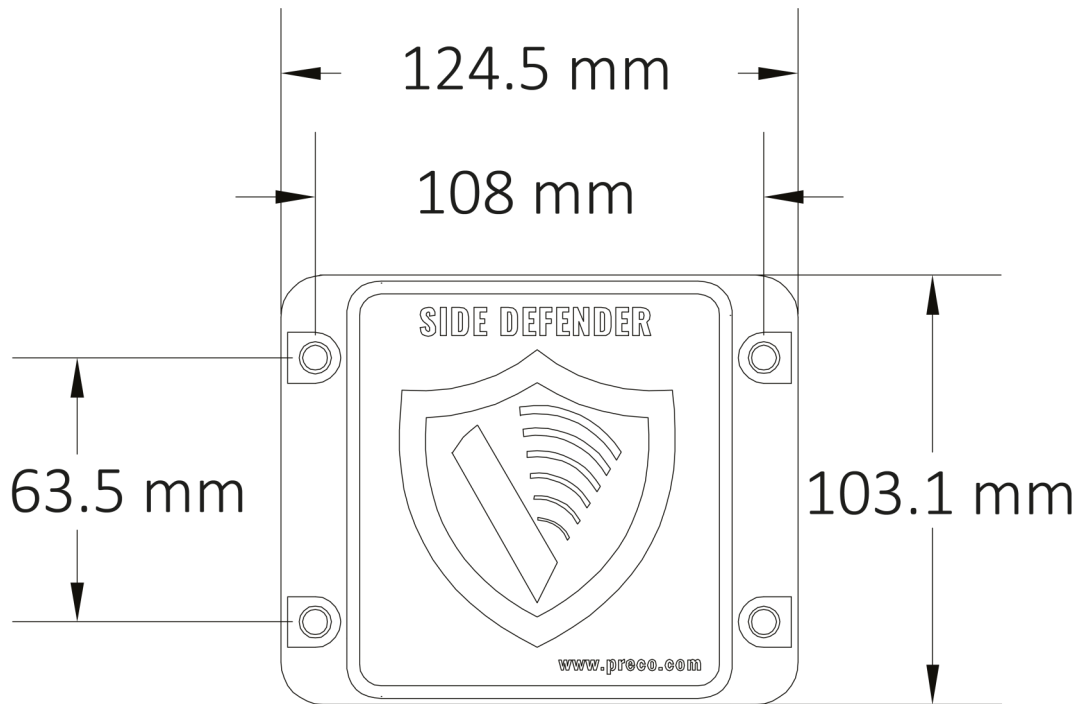

Fig. 10: Drilling dimensions of the sensor
2. The standard fitting configuration is with the 'Side Defender®II' text facing up, as shown in Fig. 10.
3. Drill four holes $\varnothing 6$ mm as shown in Fig. 10.